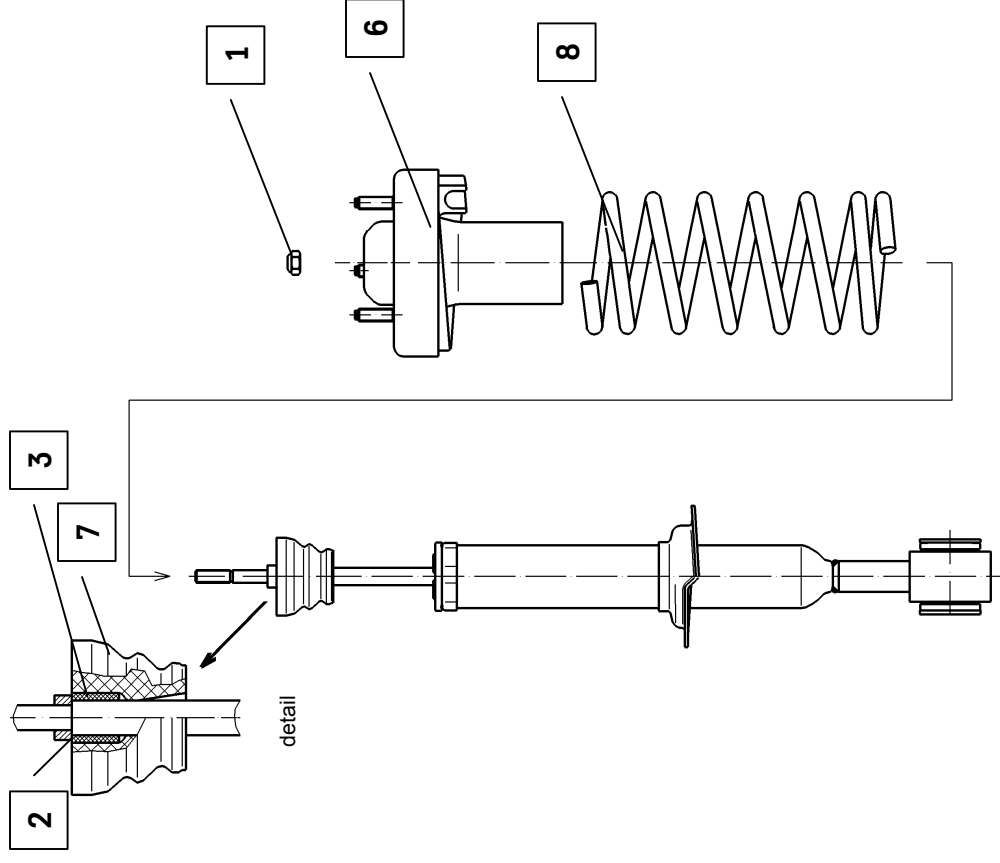

Figure 4
- refer to Figure 4):
- K.** Fit bumpstop (7) over rubber sleeve (3) as shown (see detail).
- L.** Using appropriate spring compressor, compress coil spring (8) and install to shock absorber, aligning lower coil end with end of ramp in spring seat.
- M.** Install upper mount (6) over piston rod end and onto top of coil spring. Rotate upper mount (6) so that studs are in original position relative to lower mount bearing (see step B). Align end of coil spring with the rubber isolator in the upper mount.
- N.** Install M10 hex nut (1) and tighten to 25 Nm (19 lb/ft).